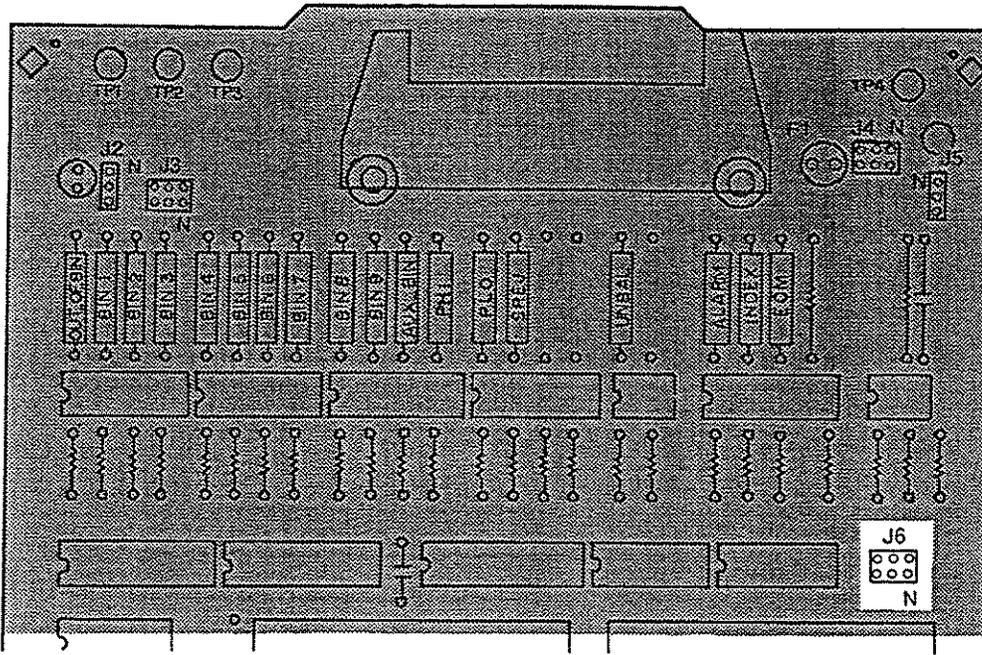

Figure 2-13. How to Set Up the Handler Interface Board (3)
14. Install the jumpers for the input signals according to Table 2-8 (See Figure 2-13).